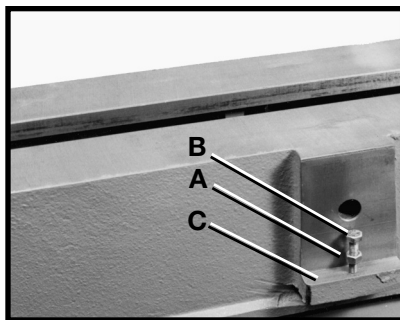

Fig. 7
1. Thread M6 Hex Nut, one of which is shown at (A) Fig. 7 on M6 x 30 hex head screw (B) and thread the hex head screw (B) into mounting ledge (C) at the front of the lathe bed. Similarly, thread the remaining M6 x 30 hex head screw with locknut to the mounting ledge on the other end of the lathe bed in the same manner. **NOTE:** To make the installation easier, adjust the two hex head screws (B) Fig. 7 so the tops of screws (B) are equal to each other in length. Tighten hex nuts (A) Fig. 7 against ledge (C).